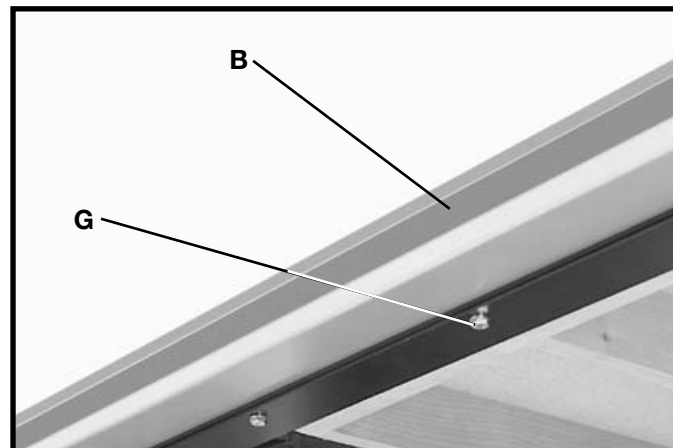

Fig. 89
13. Position the guide tube (B) Fig. 89 on the front rail and fasten the guide tube to the rail using the 1/4-20 x 1/2" long hex head screws (G) and lockwashers in seven places. Place lockwasher onto screw and assemble into rail.